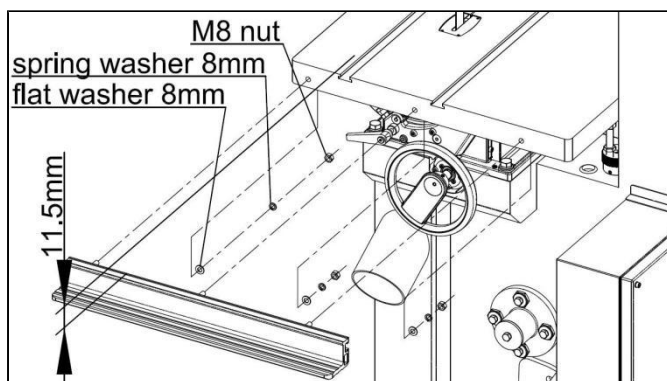

Fig. 9-5
2. As shown in Fig. 9-5, install the rear guide rail and pre-tighten the nuts onto the eccentric bolts.